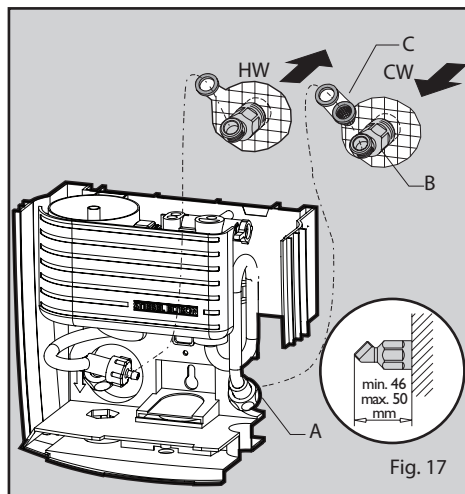

Fig. 17
- Connect the nipple joints (Fig. 17/B) to the cold water inlet pipe and the hot water outlet pipe embedded in the wall at an appropriate position and depth (please pay attention to the distances shown in the diagram).
- Screw the joints on the unit (Fig. 17/A) to the joints (both hot and cold water), using a rubber leakage gasket (Fig. 17/C) between the joints.